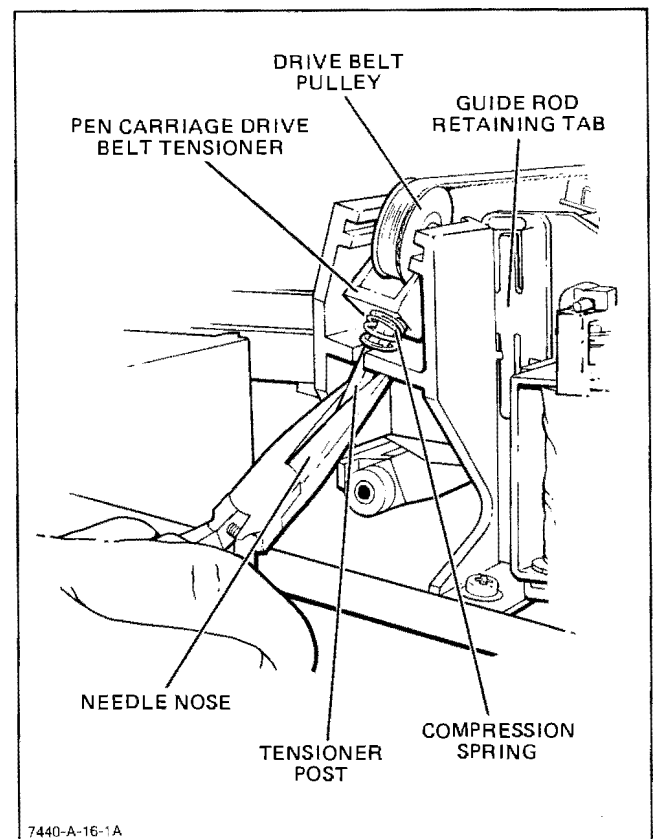

Figure 6-6. Pen Carriage Assembly Removal, Detail A
- e. Remove the pen carriage drive belt from the gear on the shaft of the pen carriage drive motor (left end of belt). See Figure 6-6, Detail B.
- f. Remove the drive belt pulley by sliding it to the right along its retaining grooves and clear of the chassis assembly. See Figure 6-6, Detail A.
Before performing step h., observe the orientation of the guide rod retaining tab shown in Figure 6-6, Detail A so you can easily reinstall it.
- h. Using long nose pliers, press the bottom fingers of the removable guide rod retaining tab together and lift the tab clear of the chassis assembly. See Figure 6-6, Detail A.